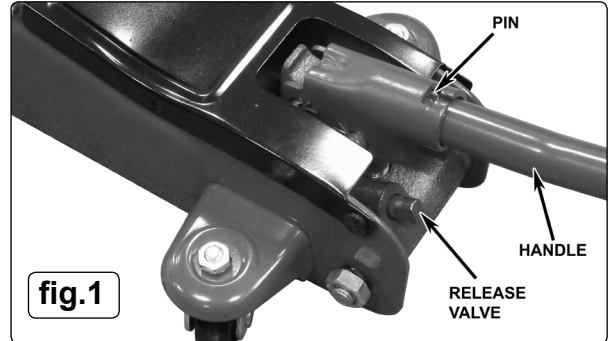

fig.1
- 2.1. To pump, place the handle into the jacking socket and turn it to engage the external pin as shown in fig.1.